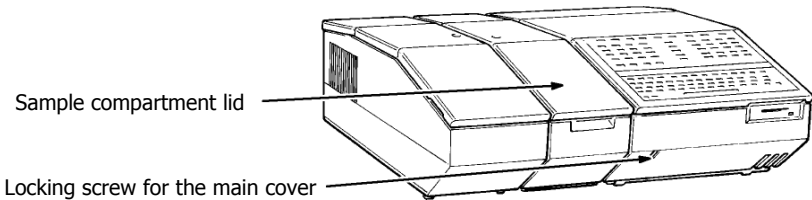

Figure 1 The Sample Compartment Lid and the Locking Screw
6. Pull the front edge of the Spectrum RX I to the front edge of the bench so that the locking screw on the lower front cover is accessible (see Figure 1).